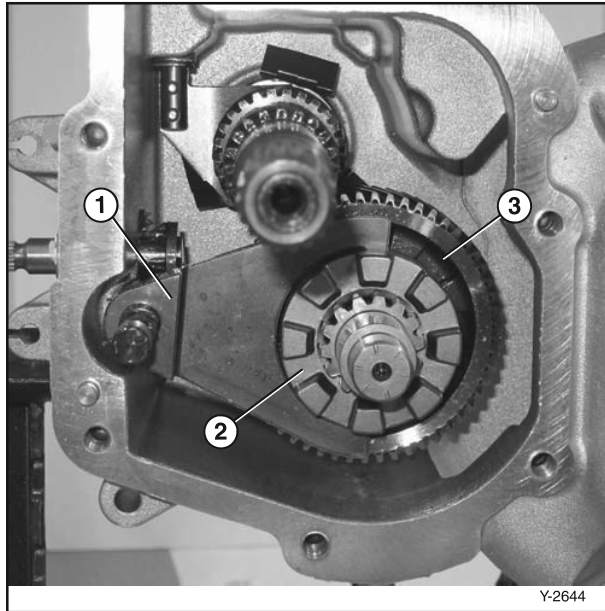

Figure 6-48
17. Remove the shift fork (Figure 6-48, (1)) along with the shift collar (Figure 6-48, (2)).
18. Remove the forward gear (Figure 6-48, (3)) and the countershaft.